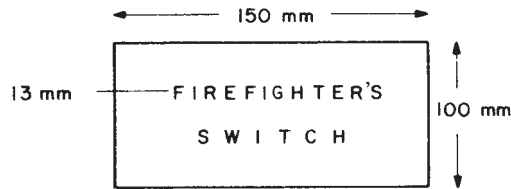

Fig. 10.13
- 9 The firefighter's switch should be coloured red and have fixed adjacent to it a notice as shown in Fig. 10.13. The notice should also display the name of the installer and/or maintainer of the installation.